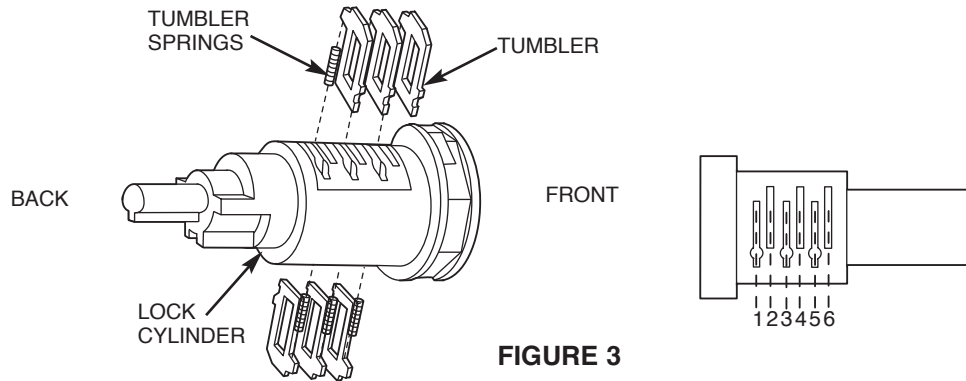
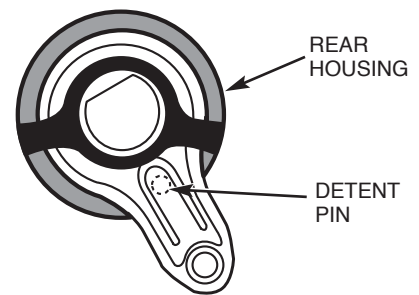

FIGURE 3
FIGURE 5
4. Insert one tumbler spring (C) into each of the holes located at the end of the tumbler wards on the lock cylinder sub-assembly (D1 or D2).
5. Insert the required tumblers (B1-B5) into tumbler wards in the proper orientation (refer to Figure 3) and in the sequence that match the key cut depths, for key stations 1, 2, 3, 4, 5, and 6.
7. With the key in the lock cylinder sub-assembly, apply the included grease (F) to the tumbler wards.
11. Assembly torsion spring (I) to the back of the lock case by locating one of the legs to the back of case and rotate to engage the other leg to case.
15. Insert the lever into the back of the rear housing in such an orientation that a protruding detent pin on the arm of the lever faces the back of the rear housing (refer to Figure 5).